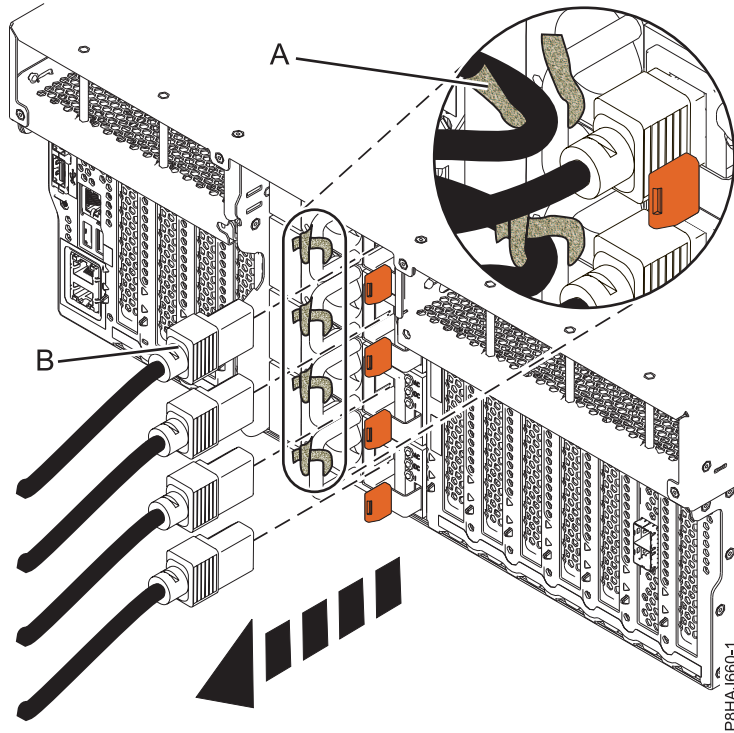
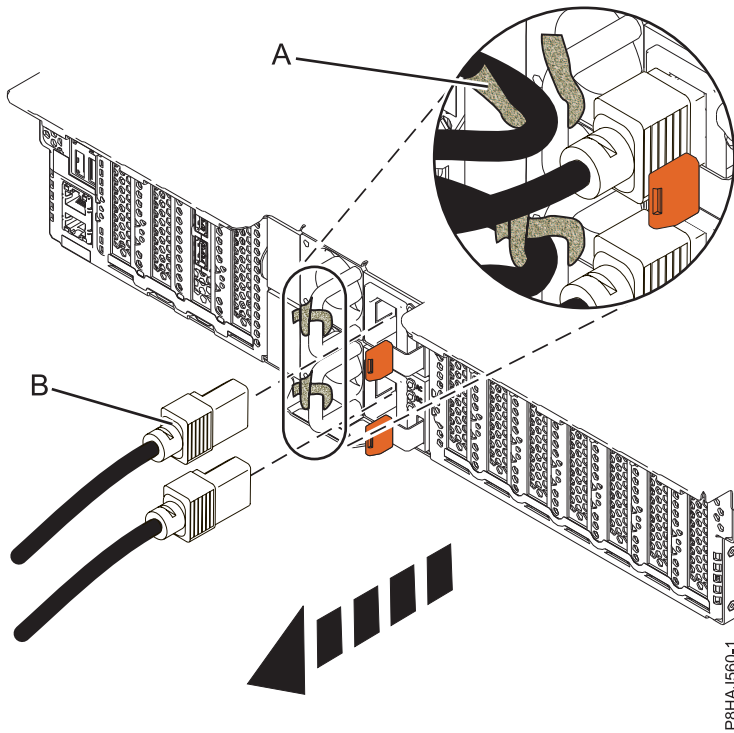
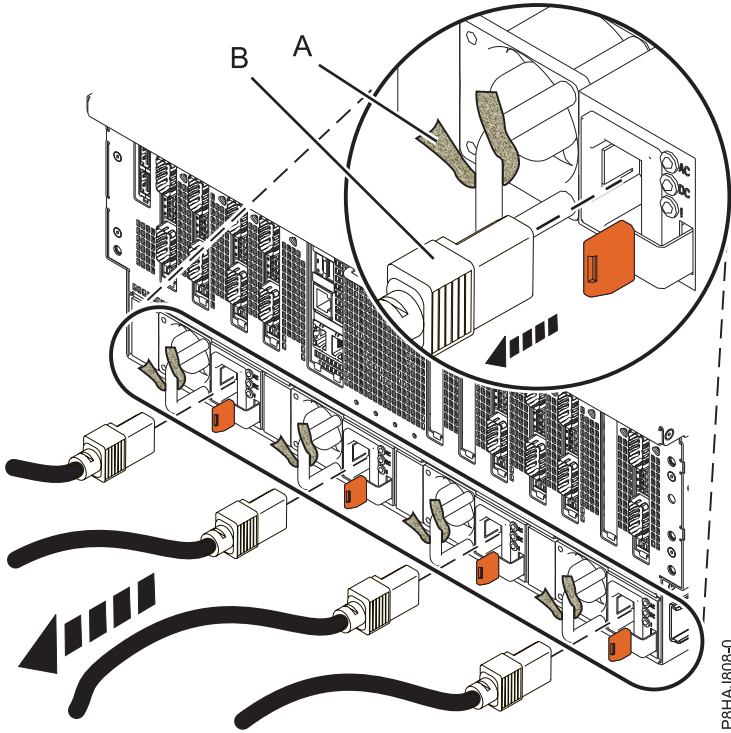

Figure 32. Removing the power cords from an 8247-42L, 8286-41A, or 8286-42A system
Figure 33. Removing the power cords from an 8247-21L, 8247-22L, or 8284-22A system
Figure 34. Removing the power cords from an 8408-44E or 8408-E8E system
3. Disconnect the power cords (**B**) from the system unit. See Figure 32 on page 43, Figure 33 on page 43, or Figure 34 on page 44 or depending on the type of your system.